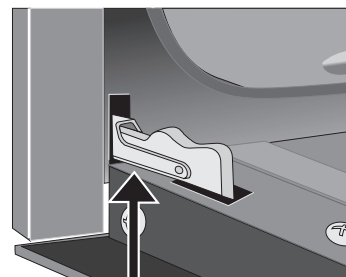

Figure 38: Door hinge locks
2. Pull up the lock located on each hinge support toward front of the oven. You may have to apply a little upward pressure on the lock to pull it up (Figure 38 and Figure 39).
4. Push the door hinge locks up toward and into the oven frame on both left and right oven door hinges to the locked position (Figure 38).